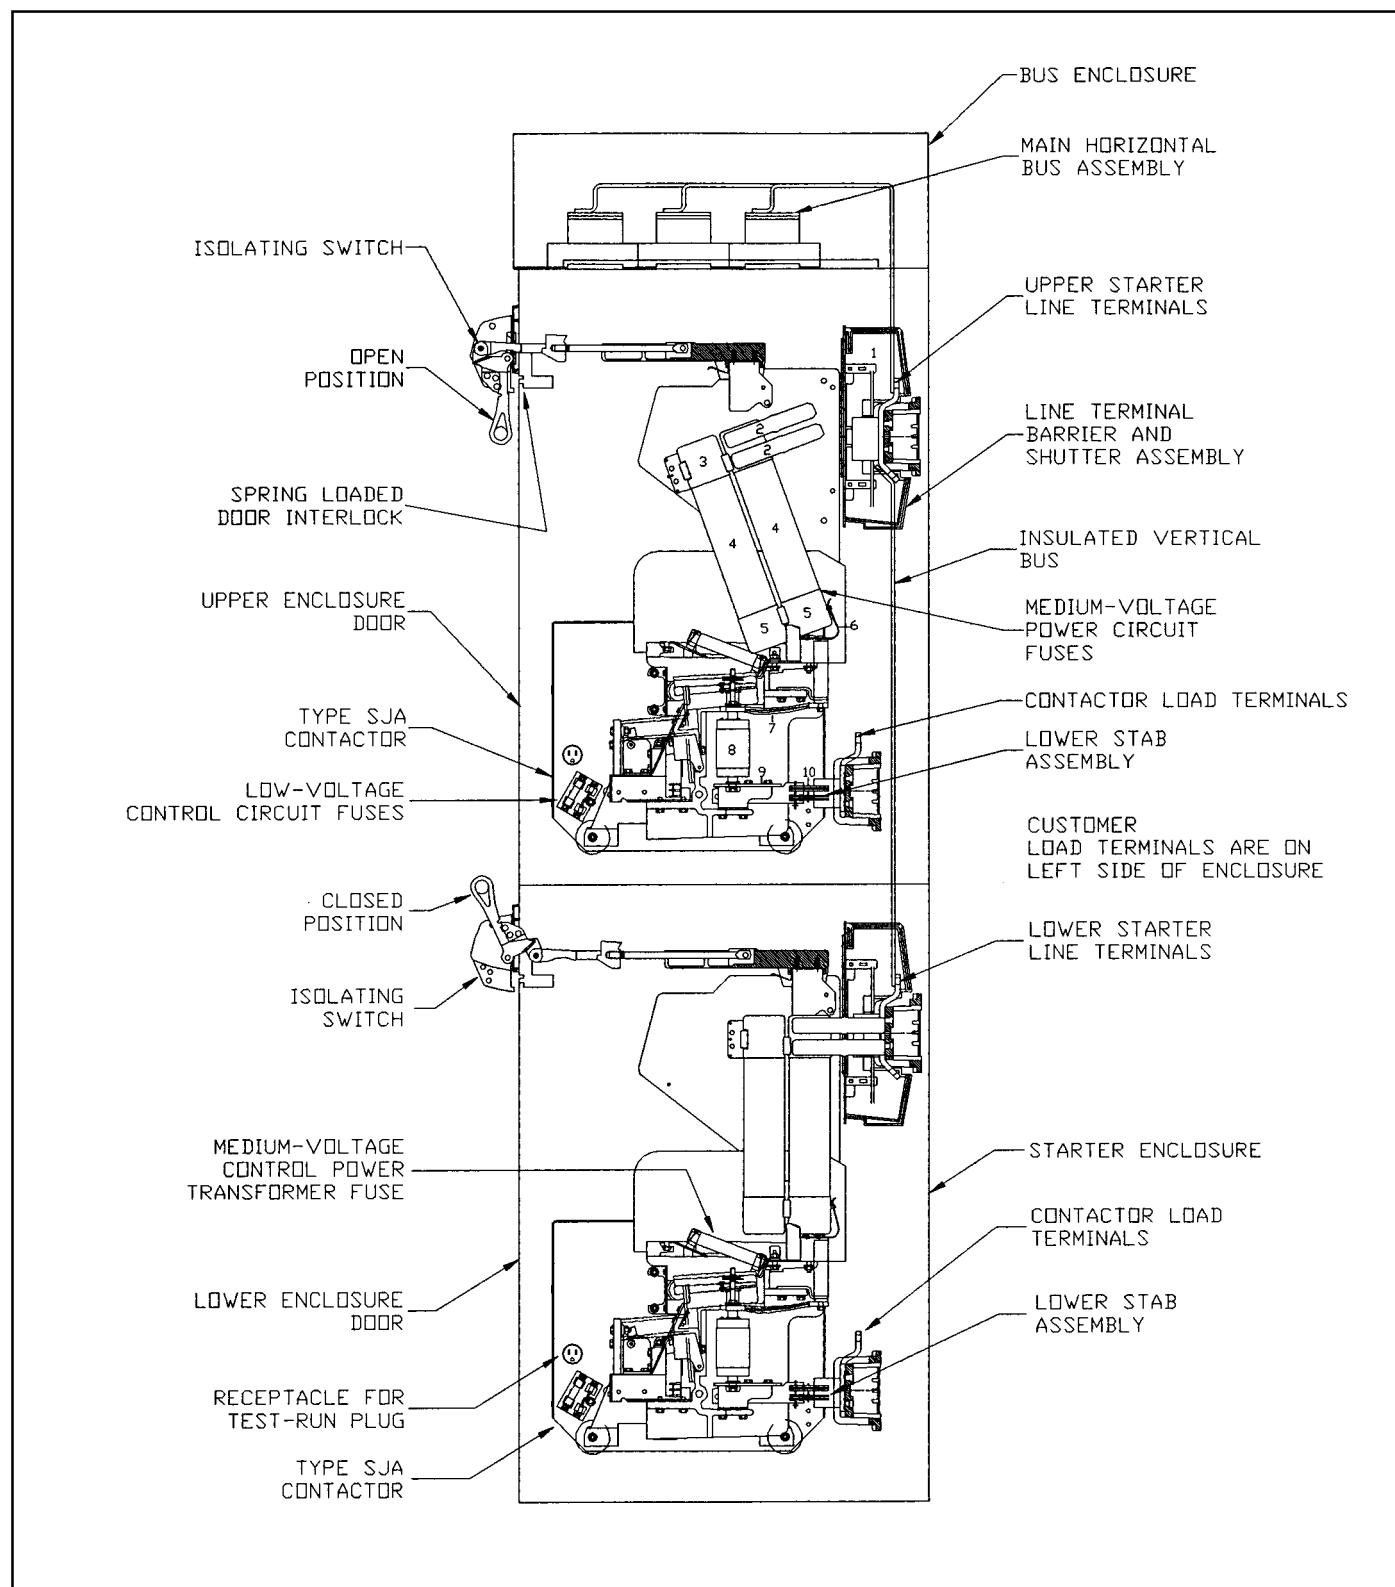

Fig. 4 Ampgard® Components, Two Starters (Controllers) Shown
The flow of current through a vacuum-break controller (starter) can be traced by referring to the upper portion of Figure 4, where the controller is shown in the energized position. The line stab assembly mounted at the back of the enclosure also serves as the controller line terminals (1). The stabs themselves are engaged by the fuse jaws (2) of the isolating switch which is mounted on rails at the top of the lower compartment. The line ferrules (3) of the current-limiting motor-starting power circuit fuses (4) clip into the fuse jaws, and the load ferrules (5) fit into the fuse holders (6) which are part of the contactor line terminals. Current flow through the contactor is from the load ferrules of the power circuit fuses, through the shunts (7), and the vacuum interrupters (bottles) of the contactor (8), to the contactor load terminals (9). The contactor is mounted on rails in the lower part of the enclosure, immediately adjacent to the current transformers, which are bolted to a panel on the side of the enclosure. Spring loaded contact jaws mounted on the contactor load terminals plug into the lower stab assembly (10), providing a convenient connection through the current transformers to the motor (load) terminals mounted on the left-hand side wall of the enclosure. Instrument quality potential transformers (when furnished) and their primary fuses are mounted above the motor (load) terminals.